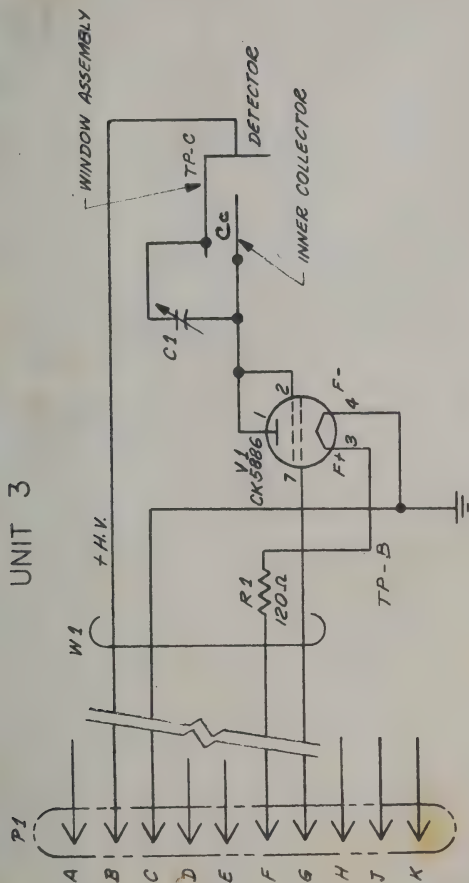

Figure 4-4. Schematic Diagram of Skin Dose Probe
Schematically, the probe is shown in simplified form in Figure 4-4. The internal chamber capacity  $C_C$  is shunted by an adjustable calibrating capacitor  $C_1$ . When connected to J1 in the High Range unit and the range switch turned to either 0-5K or 0-5C rad/hr the theory of operation is the same as that described in paragraph 4-3, a, (2).